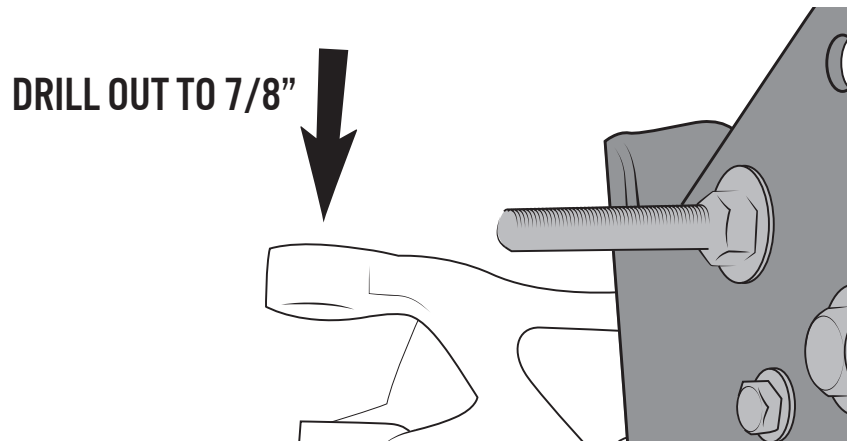

Figure 5
- A. First, drill out the tapered hole in the upper (draglink) arm on the passenger-side knuckle to make it a 7/8" diameter straight hole as shown (Figure 5.) Be sure to drill as straight and steady as possible to avoid a loose connection. Insert the supplied taper-to-straight adapter sleeve into the hole.